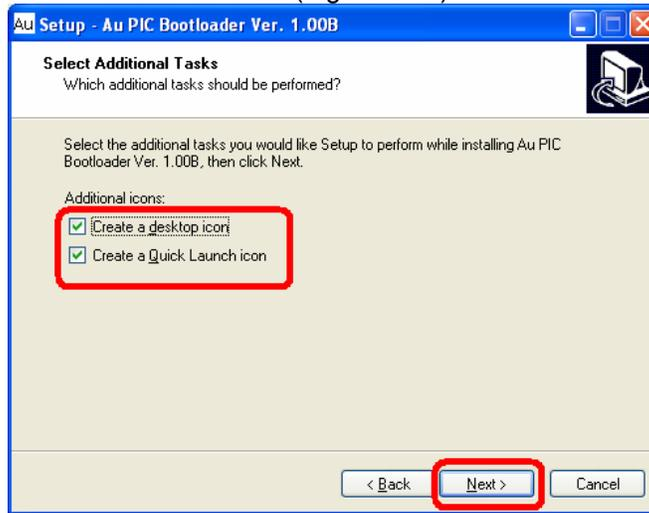

Figure 6-19
- 6. A “Select Additional Task” window will pop up, check both “Create a desktop icon” and “Create a quick launch icon”, and then click “next” to continue (Figure 6-19).